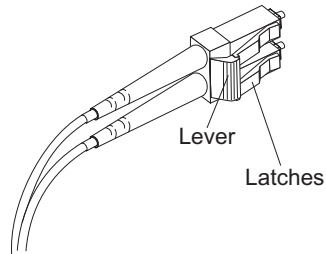

Figure 35. LC-LC Fibre Channel cable lever and latches
1. On the end of the LC-LC cable that connects into the SFP module or host bus adapter, press and hold the lever to release the latches, as shown in Figure 35.